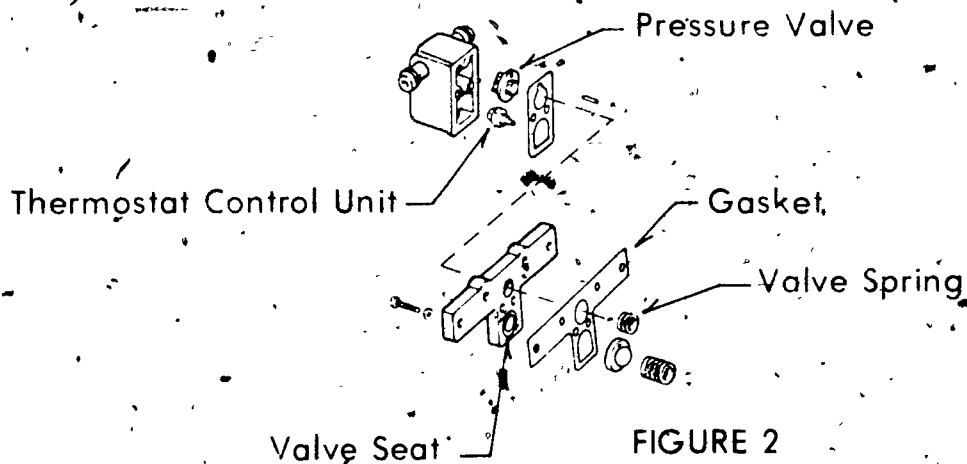

FIGURE 2
H. Inspect pressure valve, valve seats, and gasket for leakage (Figure 2)